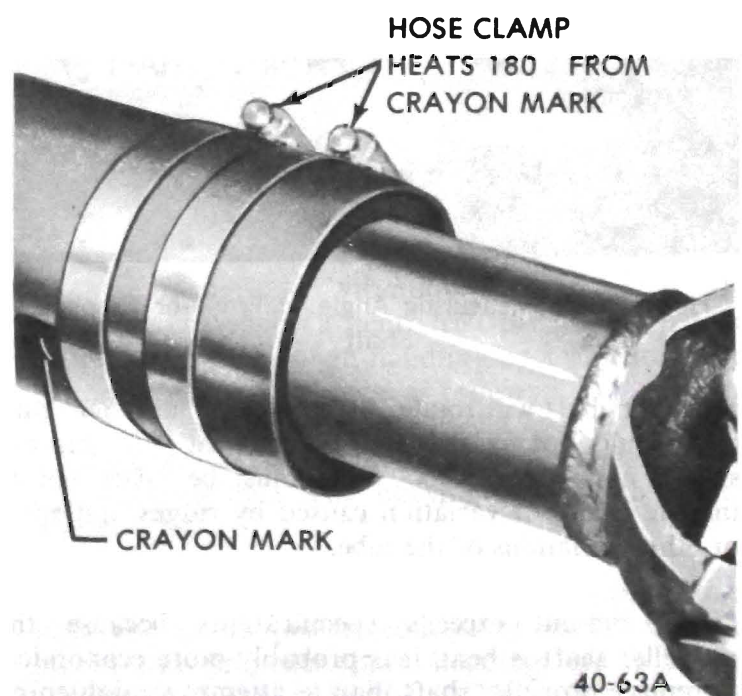

Figure 40-56 - Balance Hose Clamps in Place
3. Install two (2) Wittek type hose clamps on the rear propeller shaft and slide them rearward until the clamps stop at the nearest balance weight welded to the tube. Align both clamps to any one of the four marks made on shaft in Step 2. Tighten the clamps. See Figure 40-56. Be sure sufficient clearance is maintained so that clamp heads do not contact floor pan of car when axle is in contact with rebound bumper in frame. In order to gain sufficient clearance, it may be